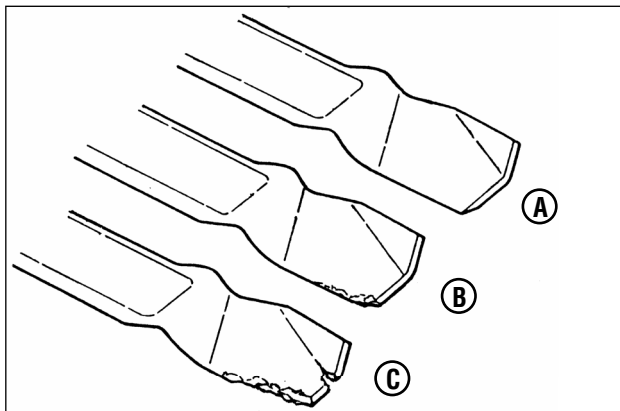

Figure 11: Standard blade wear limits
1. Inspect the blade (**Figure 11**) frequently for signs of excessive wear or damage:
- (A) New blade
- (B) Wear limit (notch starts)
- (C) Dangerous condition! Do not use on the mower! Replace with a new blade.